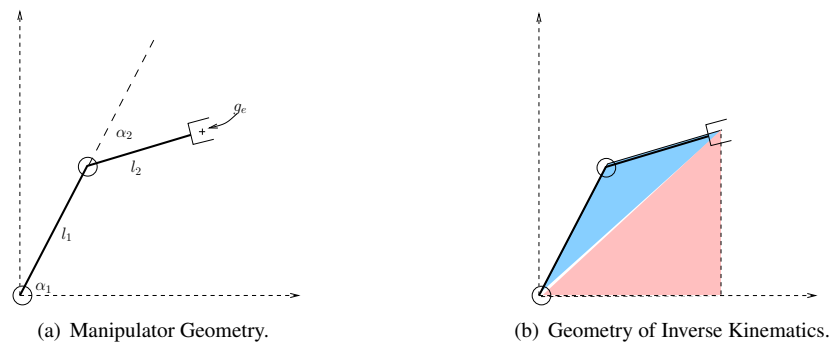

Figure 1: Simple planar manipulator with two revolute joints.
**Problem 1.** (10 pts) The *inverse kinematics* of a manipulator are the equations that provide the manipulator joint angles given the end effector configuration. In this simple problem, let's consider that our only interest is in the position of the manipulator end-effector (orientation is not important) for the manipulator in Figure 1
- (b) The inverse kinematics for this can be solved using the law of cosines and properties of right triangles, as hinted at in Figure 1(b). Suppose that  $l_1 = 1$  and  $l_2 = 0.5$ , solve for the inverse kinematics given that  $d_e = (1.3595, 0.2113)^T$ . The inverse kinematics essentially asks: given the end-effector configuration of  $(x_e, y_e)^T$ , what are  $\alpha_1$  and  $\alpha_2$ ?